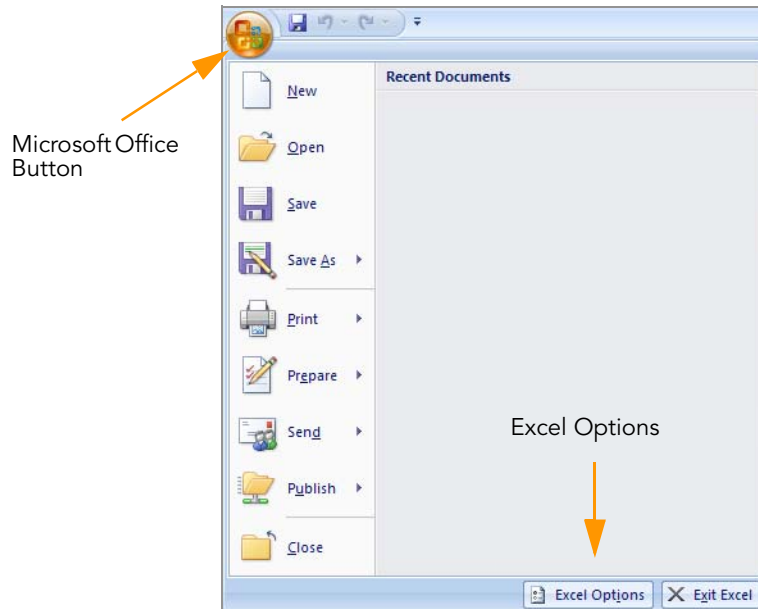

Figure 106 Excel Options
- Open Microsoft Excel. Click the Microsoft Office Button, and then click Excel Options (Figure 106).